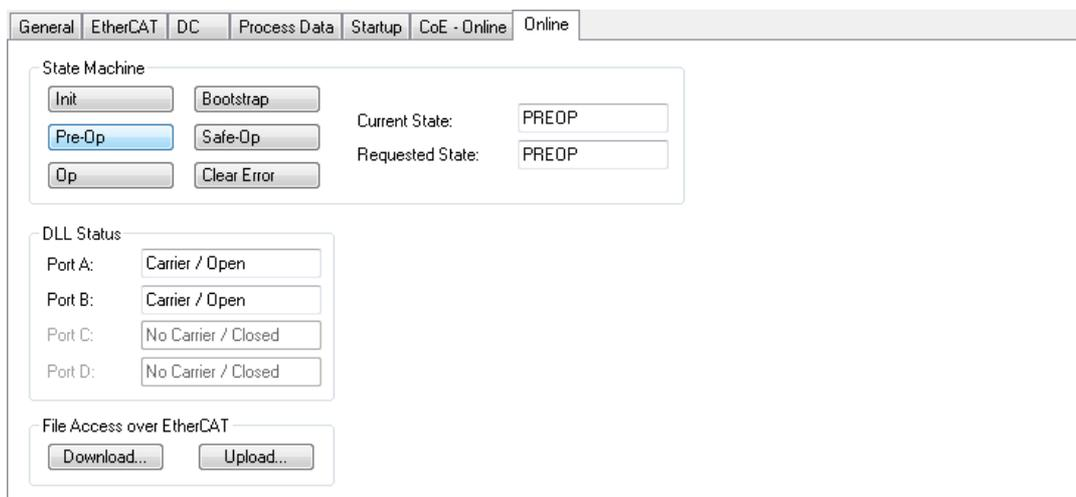

Fig. 6-33 Module in the “Pre-Operational” operating mode.
1. Make sure that the relevant module is in the “Pre-Operational” operating mode (**Online** tab, Fig. 6-33).